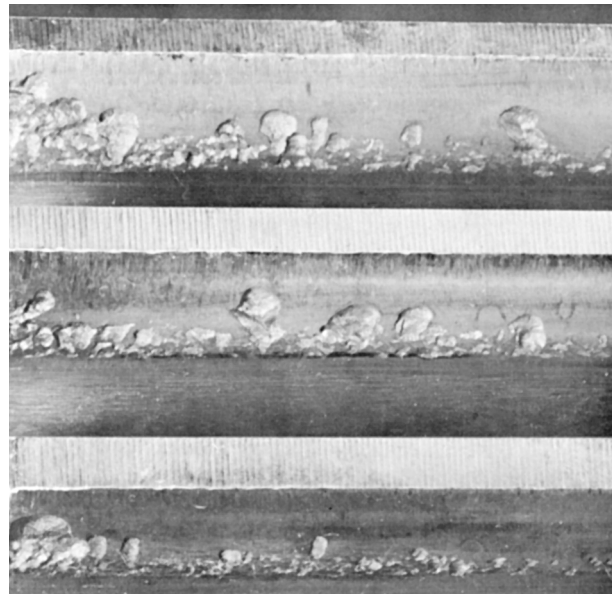

Figure 57
- (2) Pitting is a type of surface fatigue which occurs when the endurance limit of the material is exceeded. It shows up as small cavities along the surface of the teeth. The type of pitting shown in Figure 57 is usually caused by torque overload. Continued overload may result in gear tooth failures.